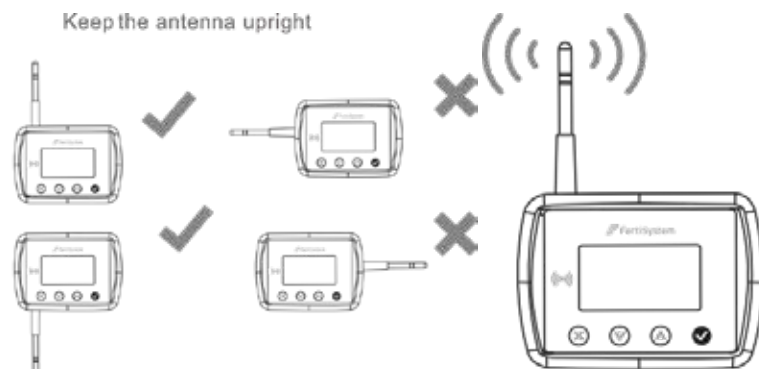

Fig. 05
6. Position the antenna so that it remains upright at all times (Fig. 05).